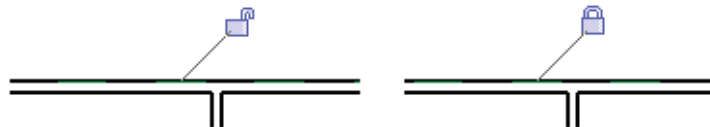

Figure 2–41
- Select the **Multiple Alignment** option to select multiple elements to align with the first element, as shown in Figure 2–42. You can also hold down <Ctrl> to make multiple alignments.